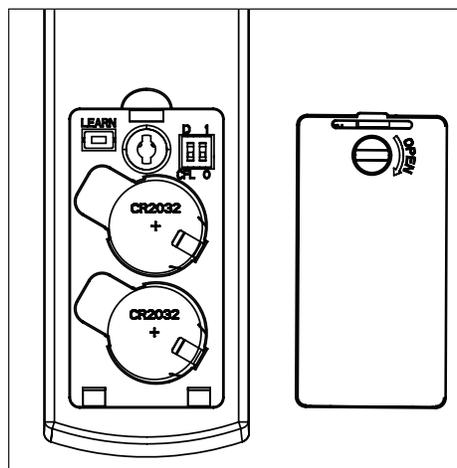

Figure 5.2
**LEARN** - Use button to resync remote to receiver (Figure 5.2). See TROUBLESHOOTING, page 11.
Remote does not work.	<ol style="list-style-type: none"> 1. Power surge may have cleared the memory and remote needs to be resynced to the receiver. Syncing instructions: Within 30 seconds, press and hold the "LEARN" button (Figure 5.2) on the back of the remote for 5 seconds. The fan will turn on at high speed and light will blink twice and stay on, signaling a successful synchronization 2. Insert new CR2032 batteries in battery compartment of the wall control. 3. If there are several remote fans in proximity, turn the power off to those fans and re-sync the fan.